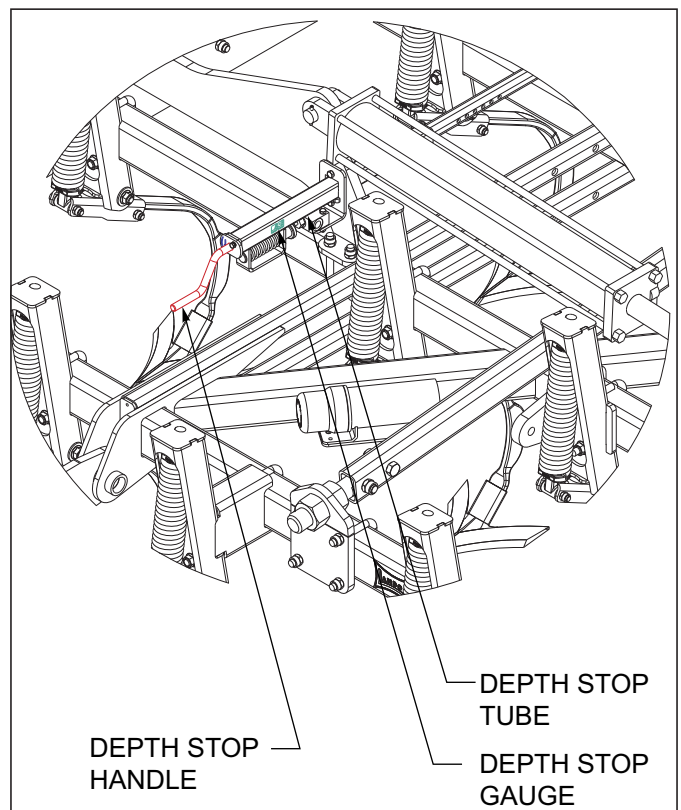

Figure 4-10: Depth Stop Adjustment
1. The operating depth of the Field Cultivator is controlled by a single-point depth stop. The stop is located at the center front of the machine *See Figure 4-10*.